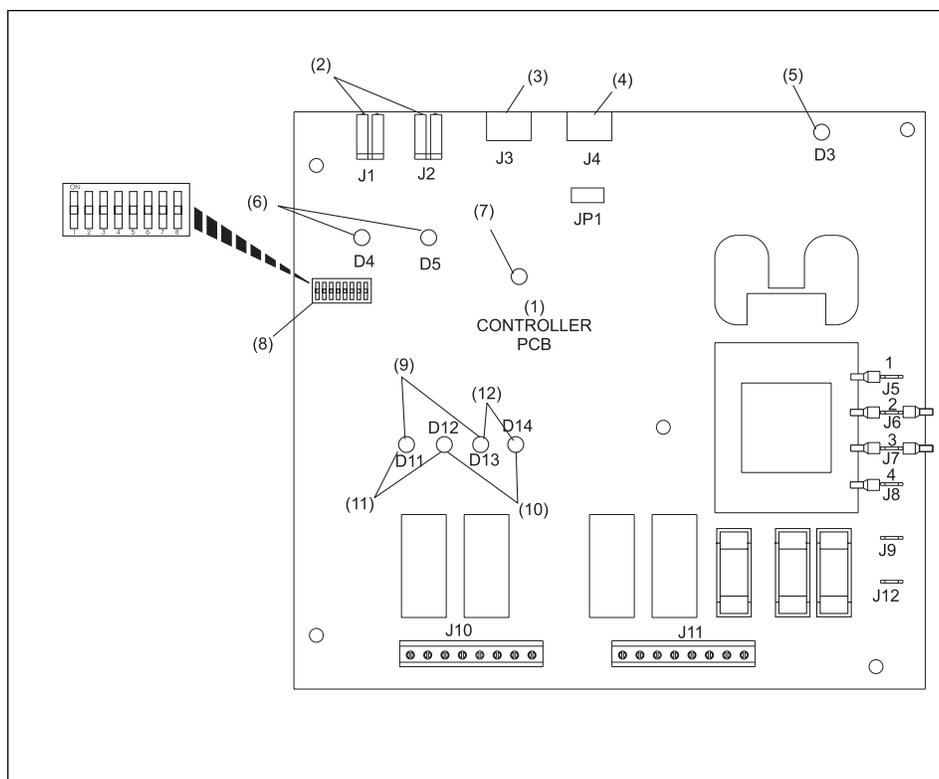

Figure 20. Gutter Position LEDs
5. Turn on power to the automated bumper controller, and press UP button on front of remote box. Observe the gutter UP LED on the automated bumper controller PCB. When this specific LED lights up, the cam switch on the actuator motor is in a “closed” state (gutter is UP). Refer to Figure 20.
7. Press the DOWN button on front of remote box. Observe the gutter DOWN LED on the automated bumper controller PCB. When this specific LED lights up, the cam switch on the actuator motor is in a “closed” state (gutter is DOWN). Refer to *Figure 20*.
- Stand-Alone Controller - Place bumpers in the closed position and check the LED status on the automated bumpers controller PCB for a “closed state” indication. Refer to *Figure 20*.